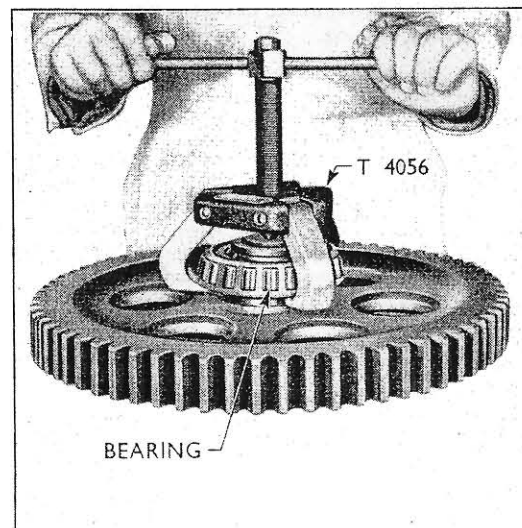

Fig. 16
6. Remove the bearing cone from the final reduction gear using the three clawed bearing remover (Tool No. T.4056), as illustrated in Fig. 16. Before removing the bearing ensure that the claws of the tool are correctly located behind the bearing in order to avoid damage to the tool.